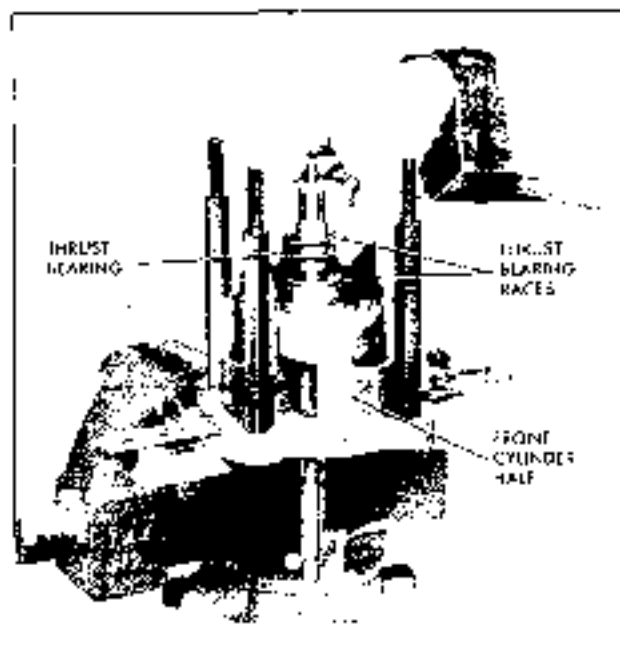

Fig. 1A-24 Mainshaft Thrust Bearing Installed
13. Place cylinder assembly in J 9397 compressor fixture with front of compressor shaft pointing down, positioning discharge tube opening between fixture bolts. This will permit access for the feeler gauge. Assemble fixture head ring and nut to the cage, tighten nuts evenly to 25 lb. ft. torque (Fig. 1A-32).